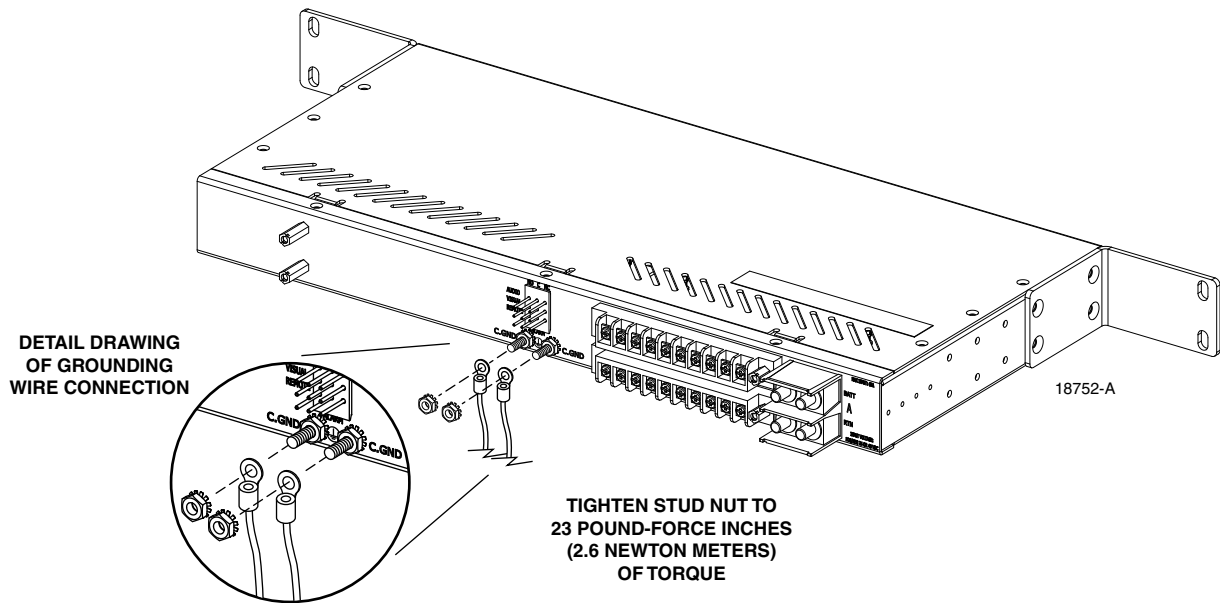

Figure 15. Chassis Grounding Connections
3. Locate the C GND (chassis ground) studs at the rear of the fuse panel as shown in Figure 15.